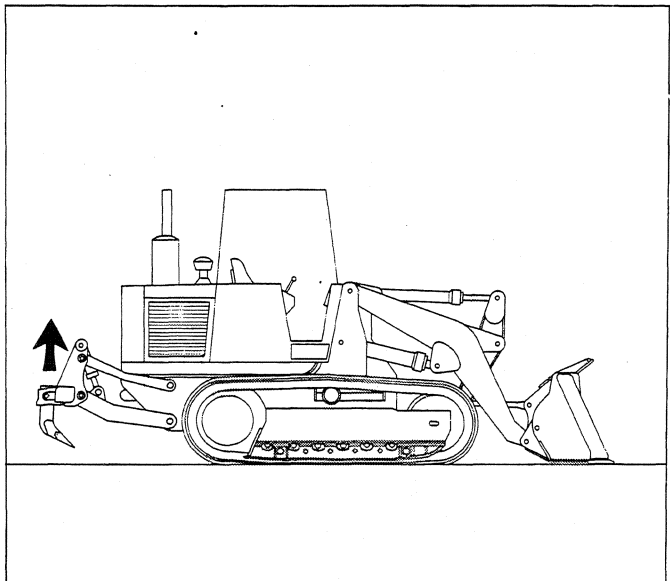

Fig. 7F
Push lever into position (F) for ripper lowering (fig. 7F).